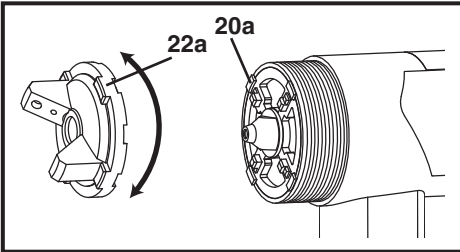

Fig. 9
2. Set up the direction of the paint stream to the desired position by aligning the grooves (22a) of the spray nozzle (22) with the spigots (20a) of the spray head (20) (Fig. 9, 10).
3. Tighten the O-ring (23) clockwise to secure the spray nozzle (22) with the spray head (20).